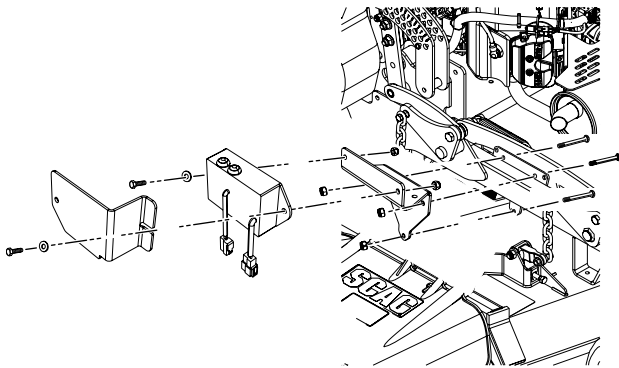

Figure 3-32. SVR11 RF Module and Mounting Bracket Installation
2. Secure the RF control module and guard to the mounting bracket using two 1/4" - 20 x 1" bolts, two 1/4" flat washers, and two 1/4" - 20 elastic stop nuts. See Figure 3-32.
10. Remove and discard the two (2) 1/4"-20 x 3/4" tap tite screws from the front of the control panel. See Figure 3-32.